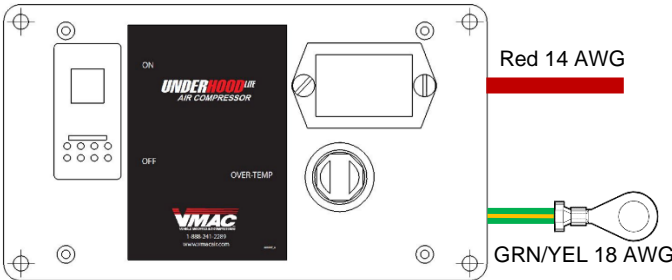

Figure 9.3 – Control panel connections
- Connect the red 14 AWG wire from the control panel to an auxiliary power connection rated for at least 20 amps (Figure 9.3)